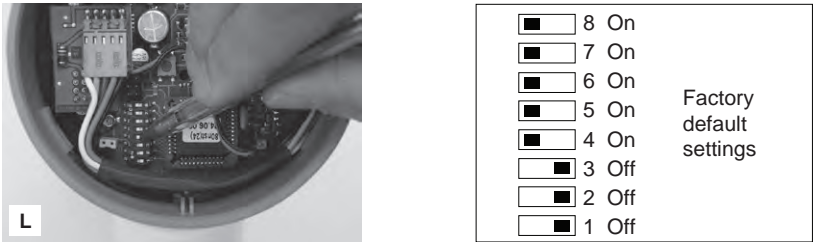

Fig. 3
1. The wire link between B1 and B2 is mandatory. Removing the link forces the actuator to its safe position selected by switch 6 (see Figure 3, page 12). The link can be replaced with a switch to provide remote operation of forced end position if required.